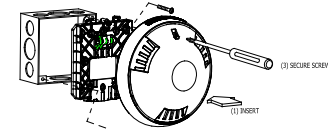

Figure 5 Installation
1. Install mounting plate as shown in Figure 5 to a single-gang, double-gang, 4" square or octagon backbox with the provided pan head screws.
5. Remove terminal cover before snapping or installing the appliance into the mounting plate per Figure 5.